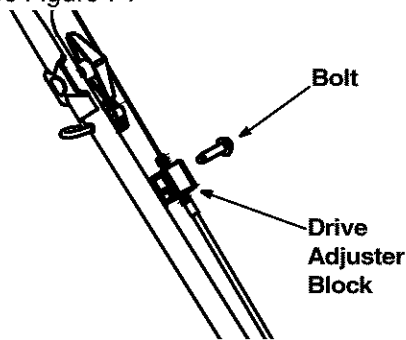

Figure 7
- Secure drive adjuster block with bolt previously removed. See Figure 7 .